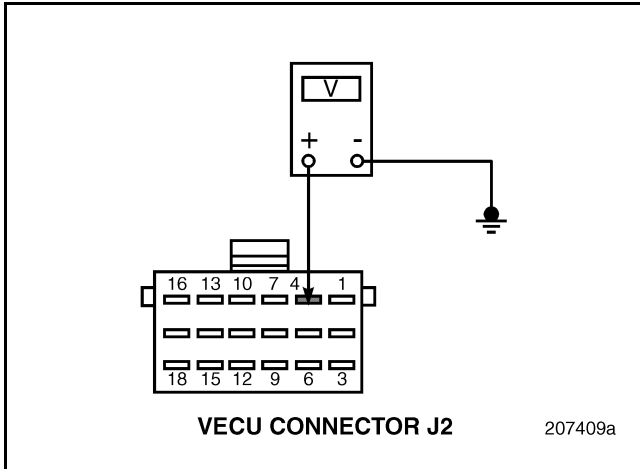

Figure 261
5. Measure the voltage between Vehicle Electronic Control Unit (VECU) harness connector J2 pin 4 and a good ground (see Figure 261).